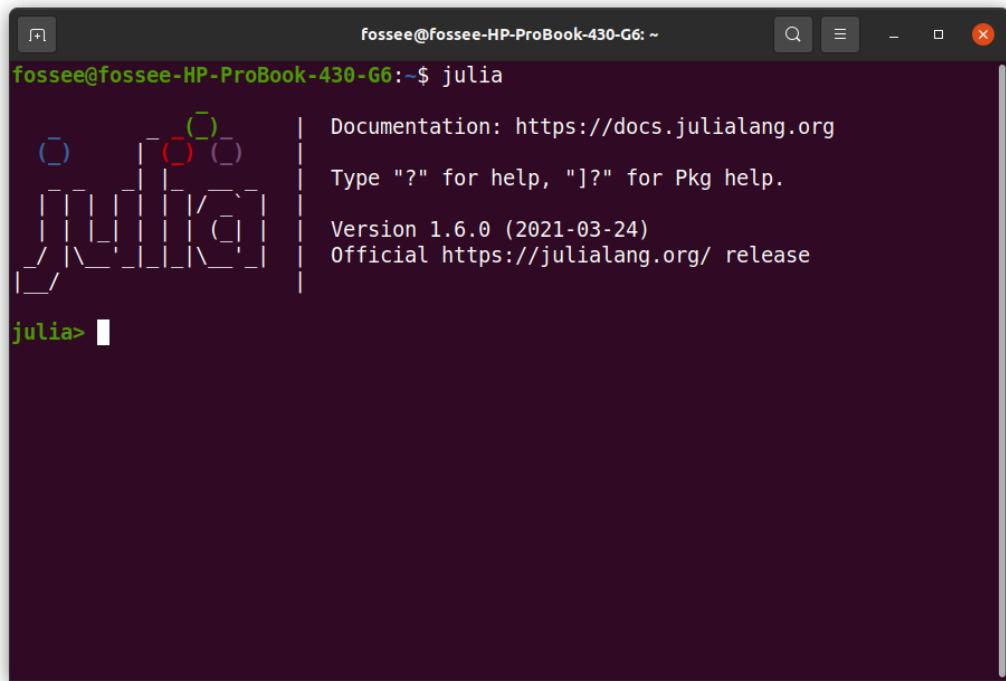

Figure 3.32: Linux terminal to launch Julia REPL
1. Open a Terminal by pressing **Ctrl+Alt+T** keys together. Type **julia** and press Enter. It should launch Julia in an interactive session (also known as a read-eval-print loop or "REPL"), as shown in Fig. 3.32. When run in interactive mode, Julia displays a banner and prompts the user for input. By default, Julia REPL appears in Julian prompt. It is the default mode of operation; each new line initially starts with **julia>**, as shown in Fig. 3.32. It is here
We can also check the status of this package to verify whether it has been installed successfully or not. For this, we need to get back to Julia REPL. Inside **Pkg** REPL, press backspace. The moment you press backspace, you get back to Julia REPL, as shown in Fig. 3.32. Now, type **using Pkg** and press Enter. This command will not generate any output. Now type **Pkg.status()** and press Enter. It should display the list of packages installed in Julia's environment. Please make sure that